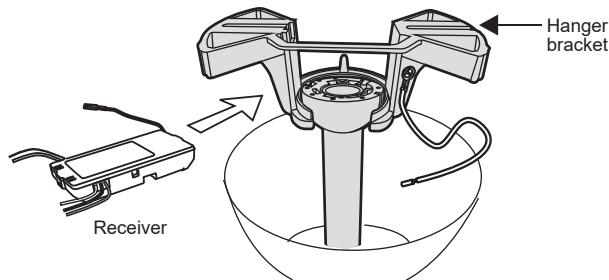

Fig. 13
**Step 1.** Insert the receiver into the ceiling mounting bracket with the flat side of the receiver facing the ceiling. (**Fig. 13**) For best performance, make sure the Black Antenna, on the end of the receiver, remains extended and not tangled with any of the electrical wires.